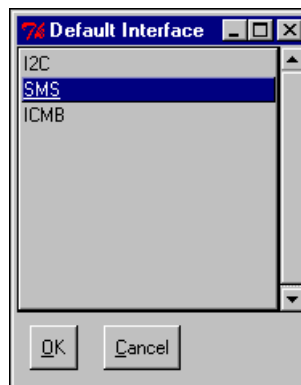

Figure 5-14. Default Interface Dialog Box
2. *Click* Default Interface. . . The Default Interface dialog box appears. Figure 5-14 shows the Default Interface dialog box with one possible interface listed: